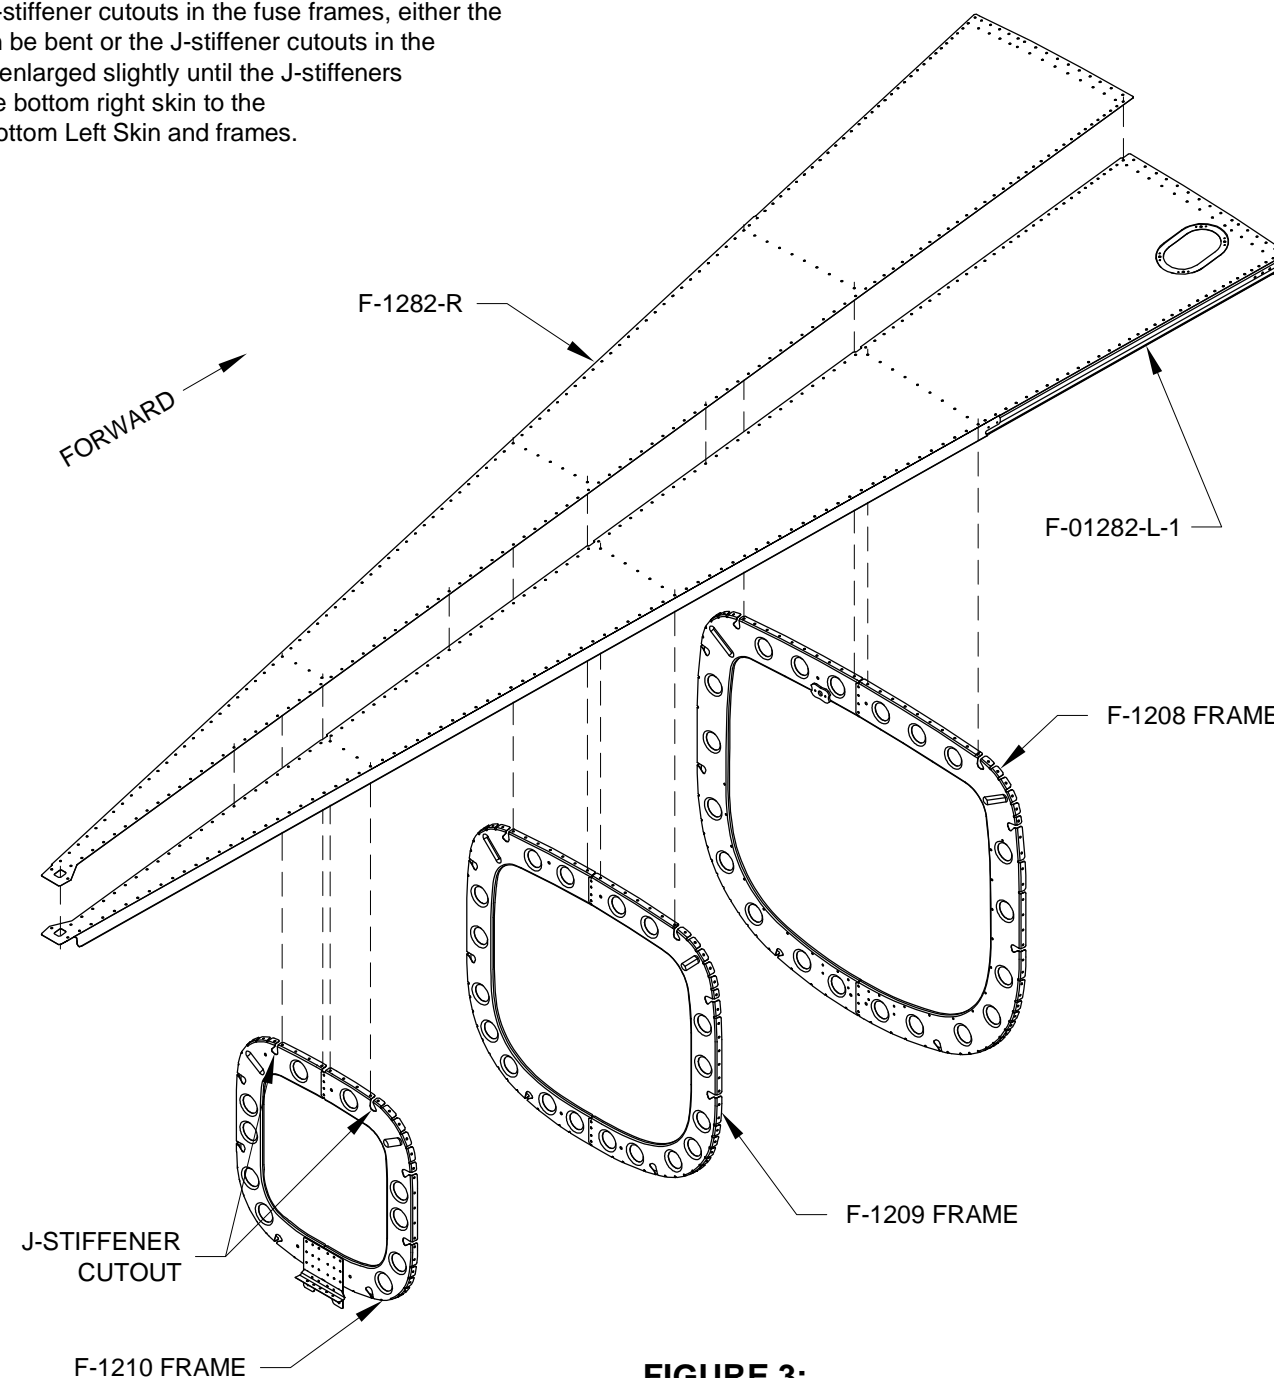

FIGURE 3:
Step 7: Place the F-01282-L-1 Bottom Left Skin upside down across two sawhorses that are at least 38 inches tall. Locate the forward sawhorse just forward of where the F-1208 Frame will be, and the rear sawhorse just aft of where the F-1210 Frame will be. See Figure 3.